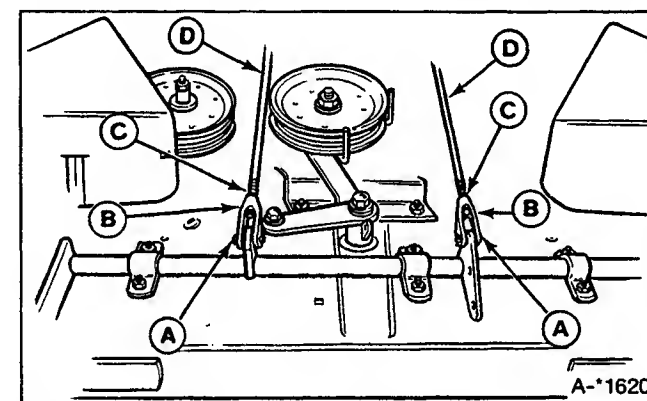

Figure 38. Mower Levelling, Front-To-Back
5. If adjustment is needed, disengage the PTO and remove the two pins (A, figure 38) by removing the spring clips. Loosen the jam nuts (C).